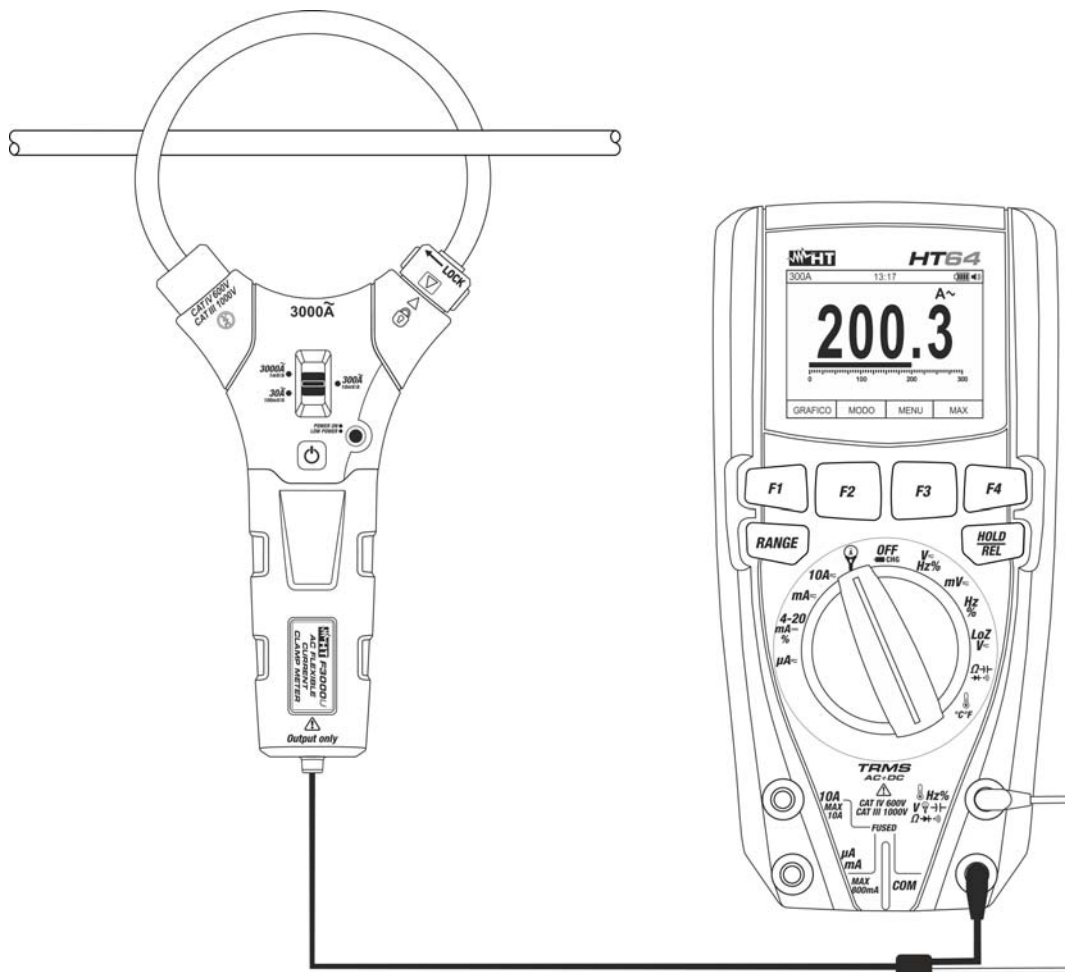

Fig. 4: Use of the instrument for measuring AC current in combination with HT64
- Open the jaws and insert the phase cable in the middle of it (see Fig. 4). The display of the multimeter shows the value of current **expressed in A**.